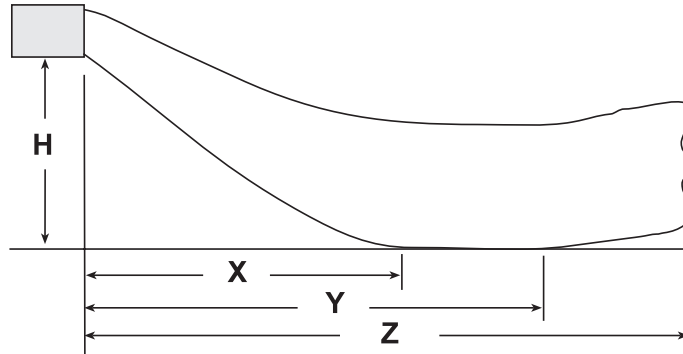

Figure 1. Heater Throw Patterns (Refer to Table 1)
Figure 1 shows throw patterns and **Table 1** lists throw distances for units suspended at varying mounting heights. The louver angles listed are relative to the top of the unit. In the graphic and table below:
*See Figure 1.
*See **Figure 1**.